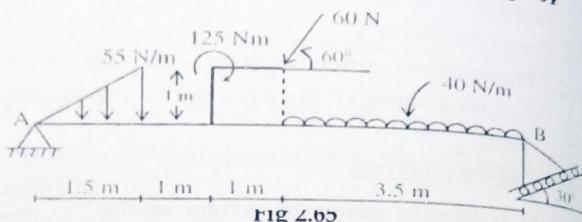

Fig 2.65
- 2) Find support reaction of the beam as shown in fig 2.65. (Ans: - $H_A=116.86\text{ N}$ (-), $V_A=82.77\text{ N}$ (↑), $R_B=173.72\text{ N}$, $\theta=60^\circ$)